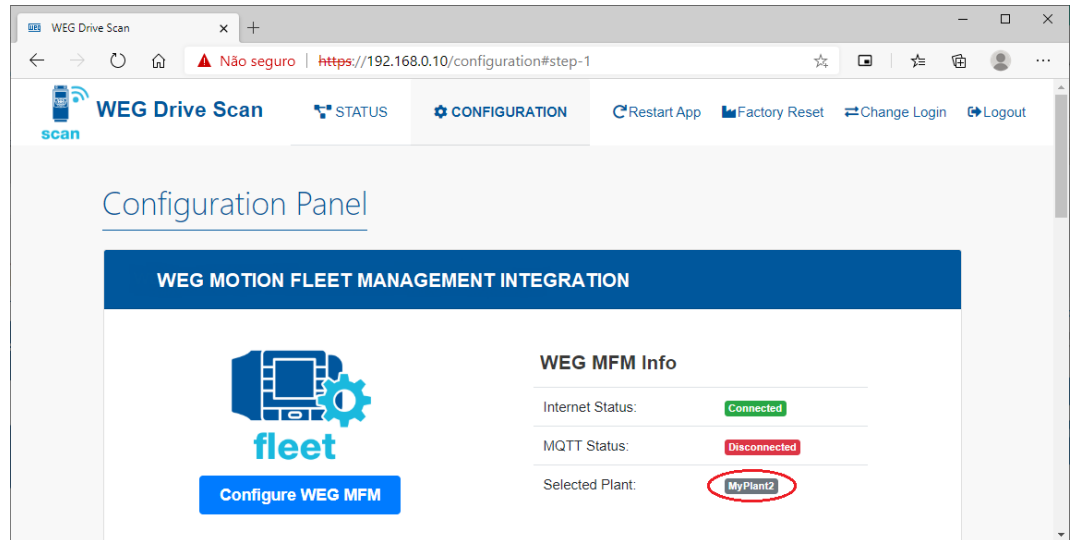

Figure 6.22: Plant linked to the Drive Scan on the MFM
Step 16 The new plant must have been configured (Figure 6.22).